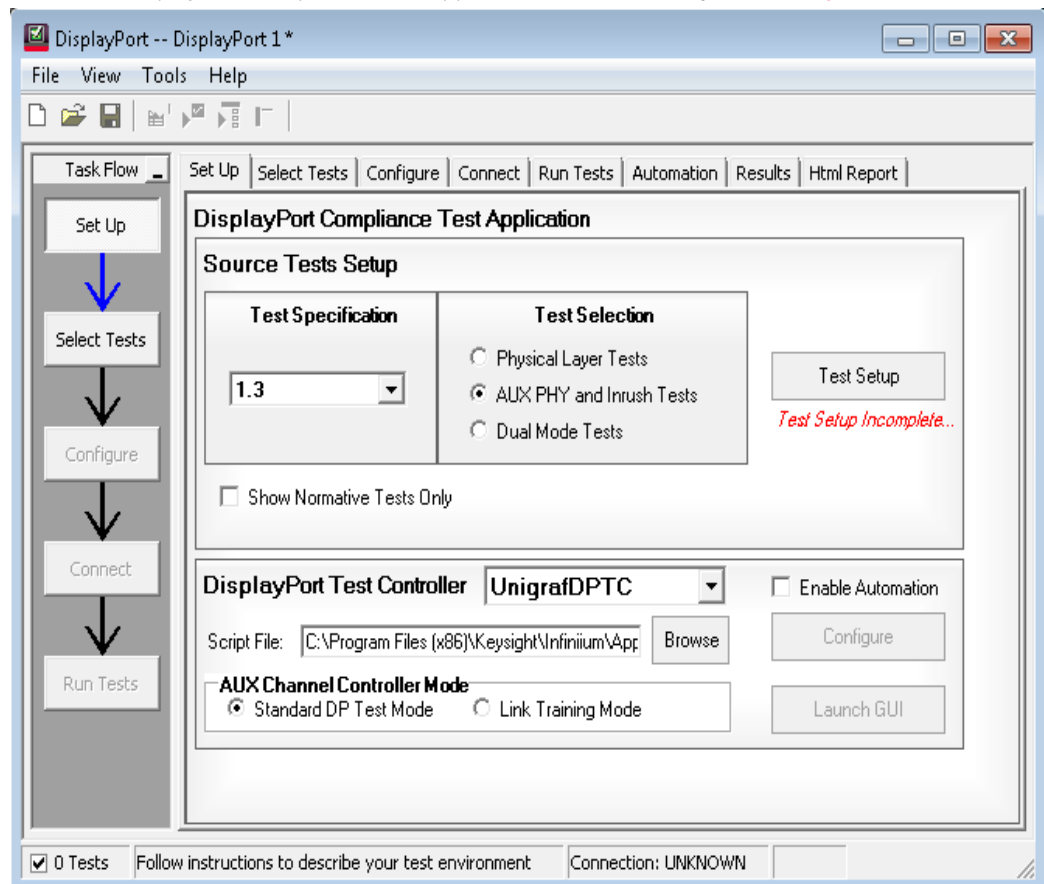

Figure 91 Set Up tab on the DisplayPort Compliance Test App
- 3 On the DisplayPort Compliance Test Application, click the **Set Up** tab (see Figure 91).